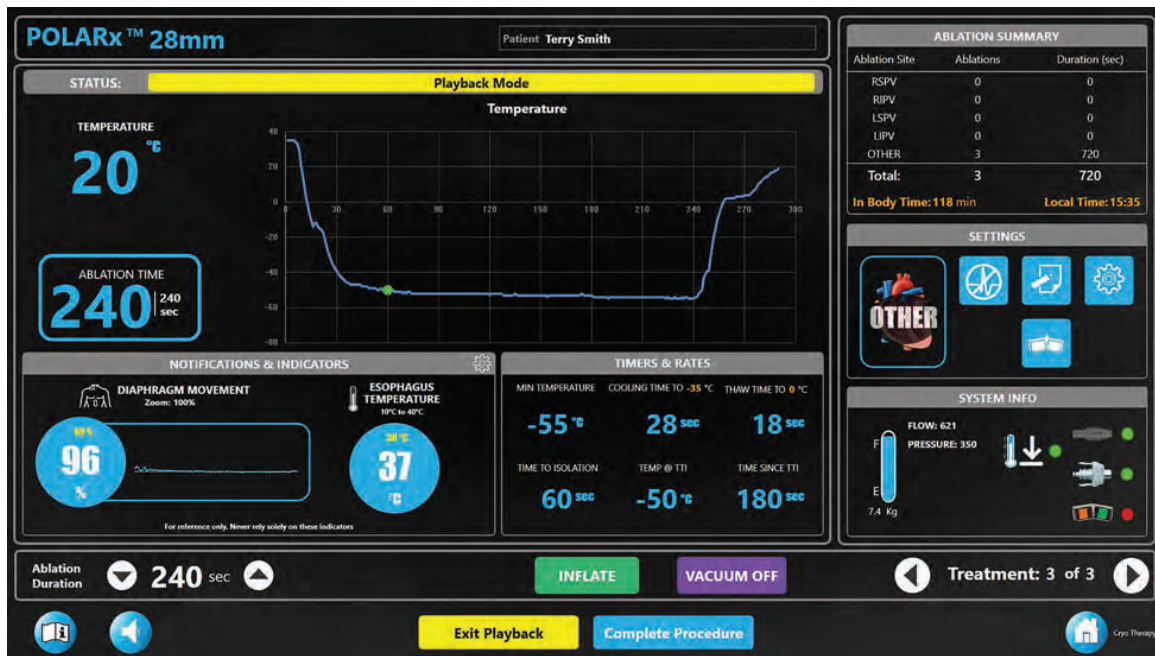

Figure 25. Playback Mode
- f. If the **Exit Playback** button is pressed, the **PLAYBACK** button appears. Pressing the **PLAYBACK** button allows data from the previous ablations to be reviewed. Press the **PLAYBACK** button to enter the **Playback Mode**, shown in Figure 25.
- Use the **Treatment** arrows (Figure 25) to display data from previous treatments within the current procedure.
1. When treatment is completed, press the **Complete Procedure** button on the Therapy screen (Figure 25 or Figure 28).